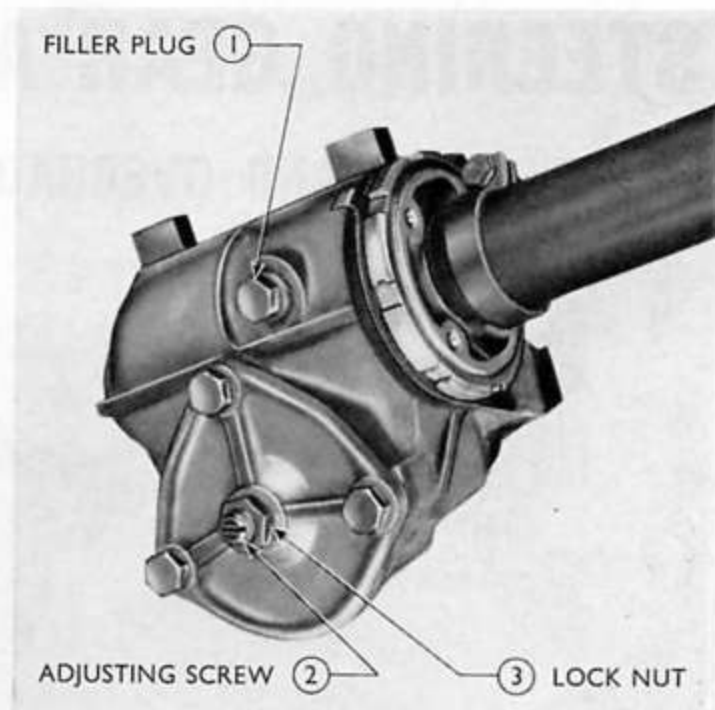

Fig. 21
3. (a) (Early type) Lever off the side of the indicator and light switch and remove the screws retaining the switch assembly to the steering column (see Fig. 21).